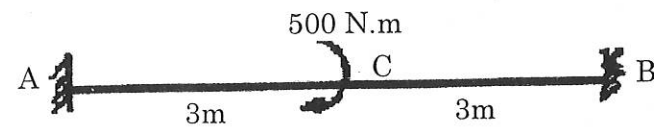

Fig. 12(a)
12. (a) For the fixed beam shown in Fig. 12(a) draw the SFD and BMD.